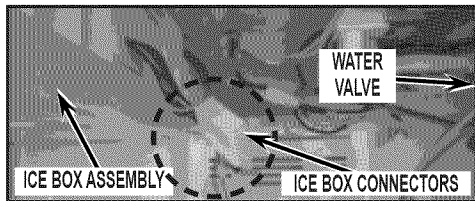

FIGURE 9
11. Disconnect electrical connections to ice box assembly. See *Figure 9*.
12. Disconnect ice maker fill tube from water valve. See *Figure 9*.